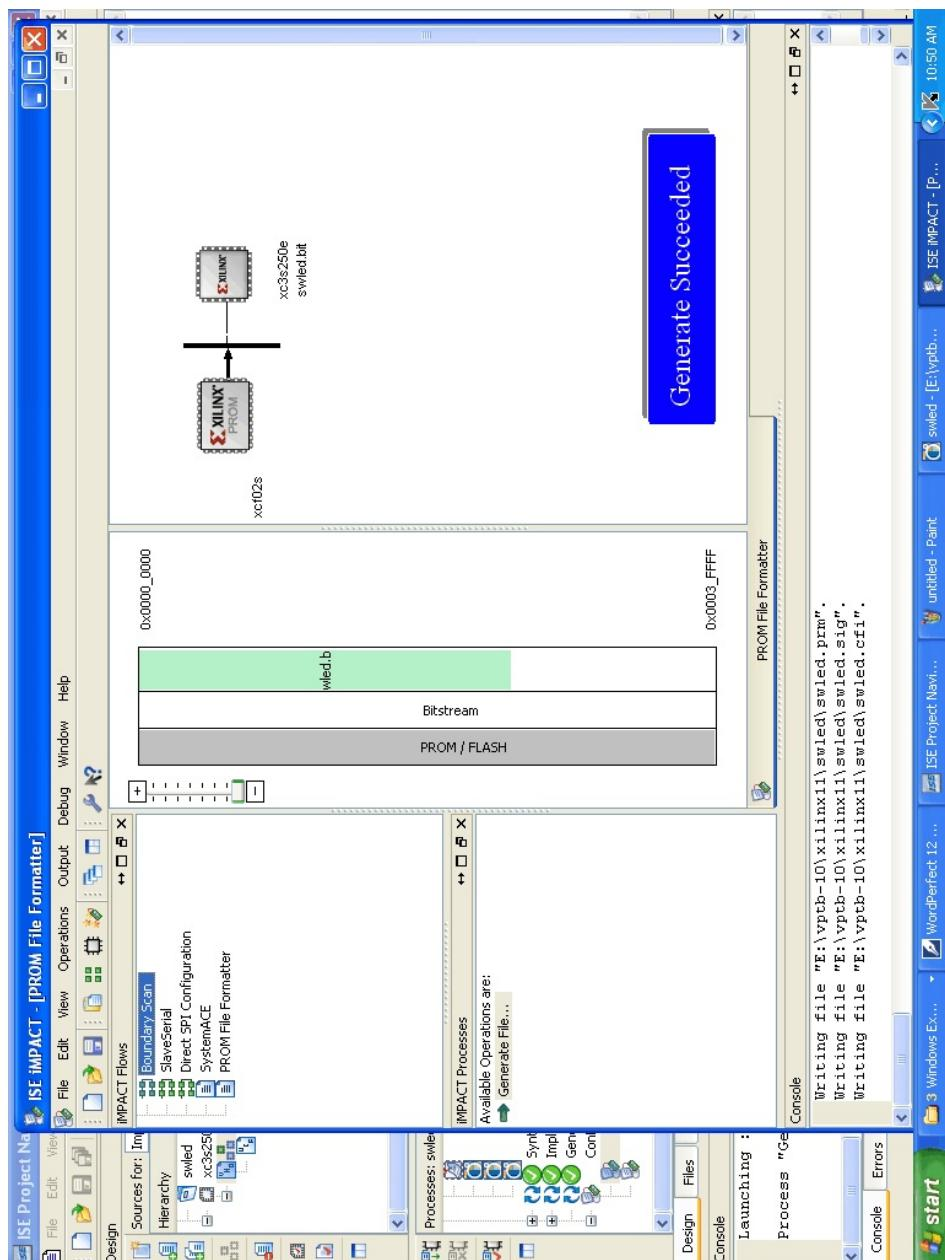
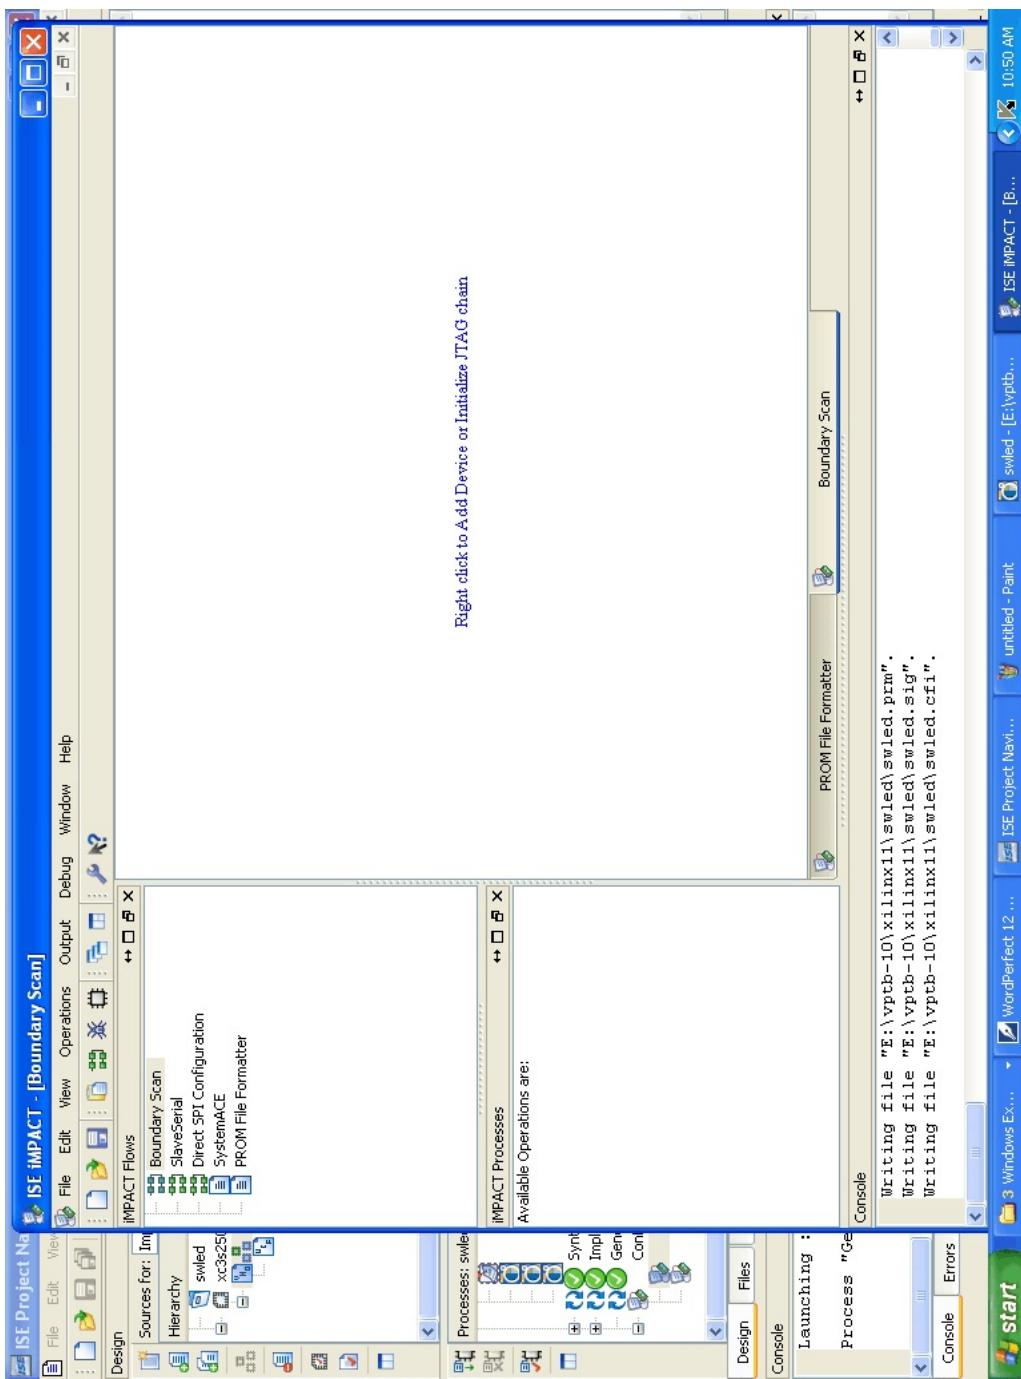
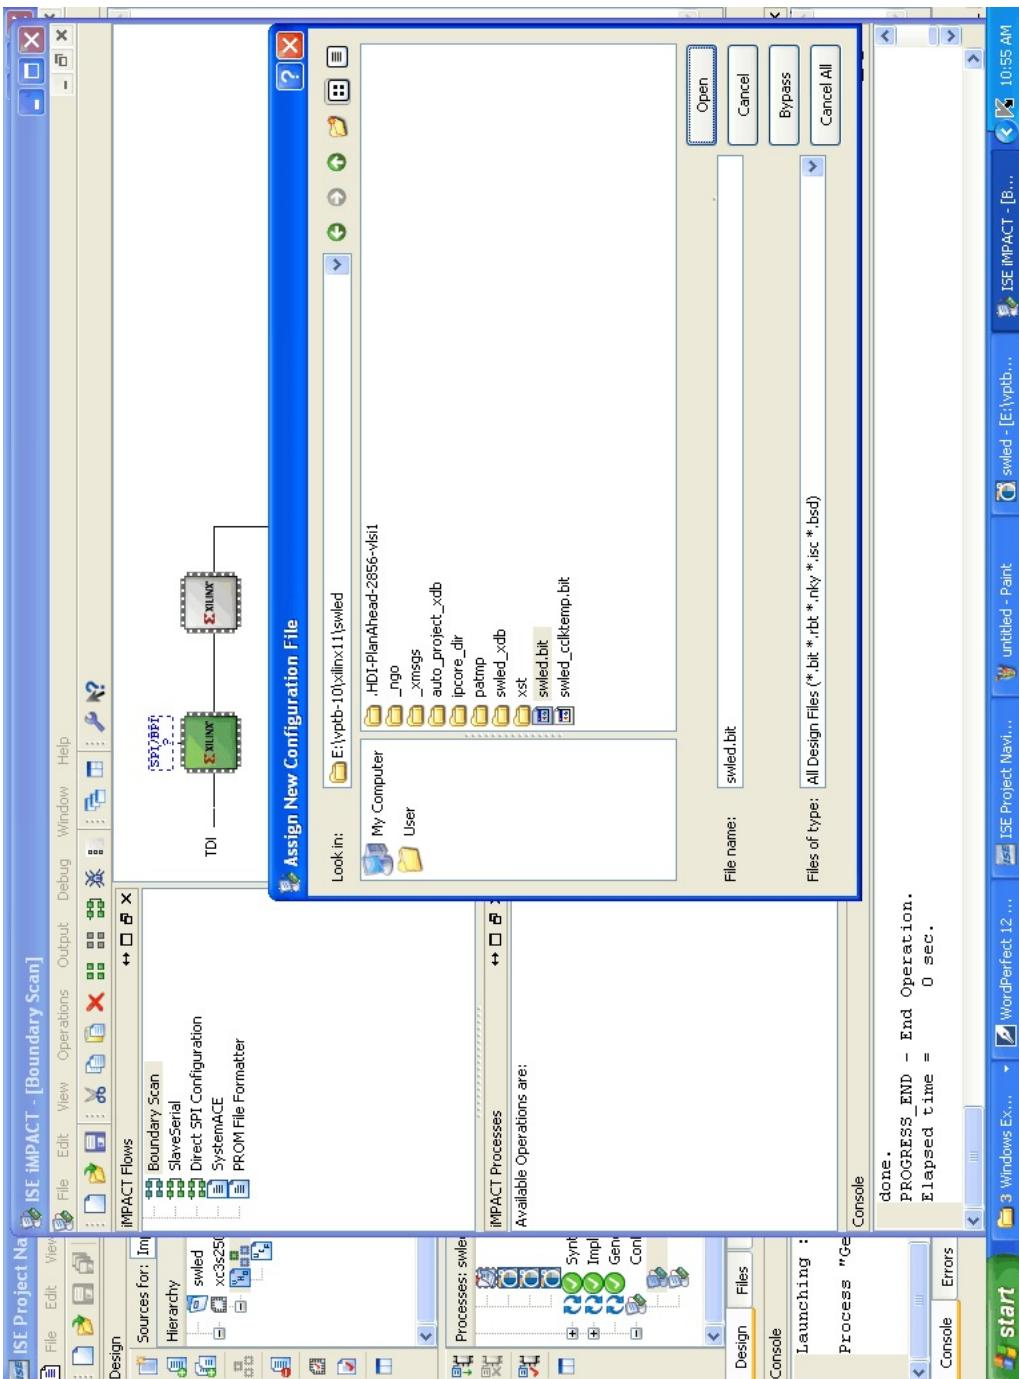
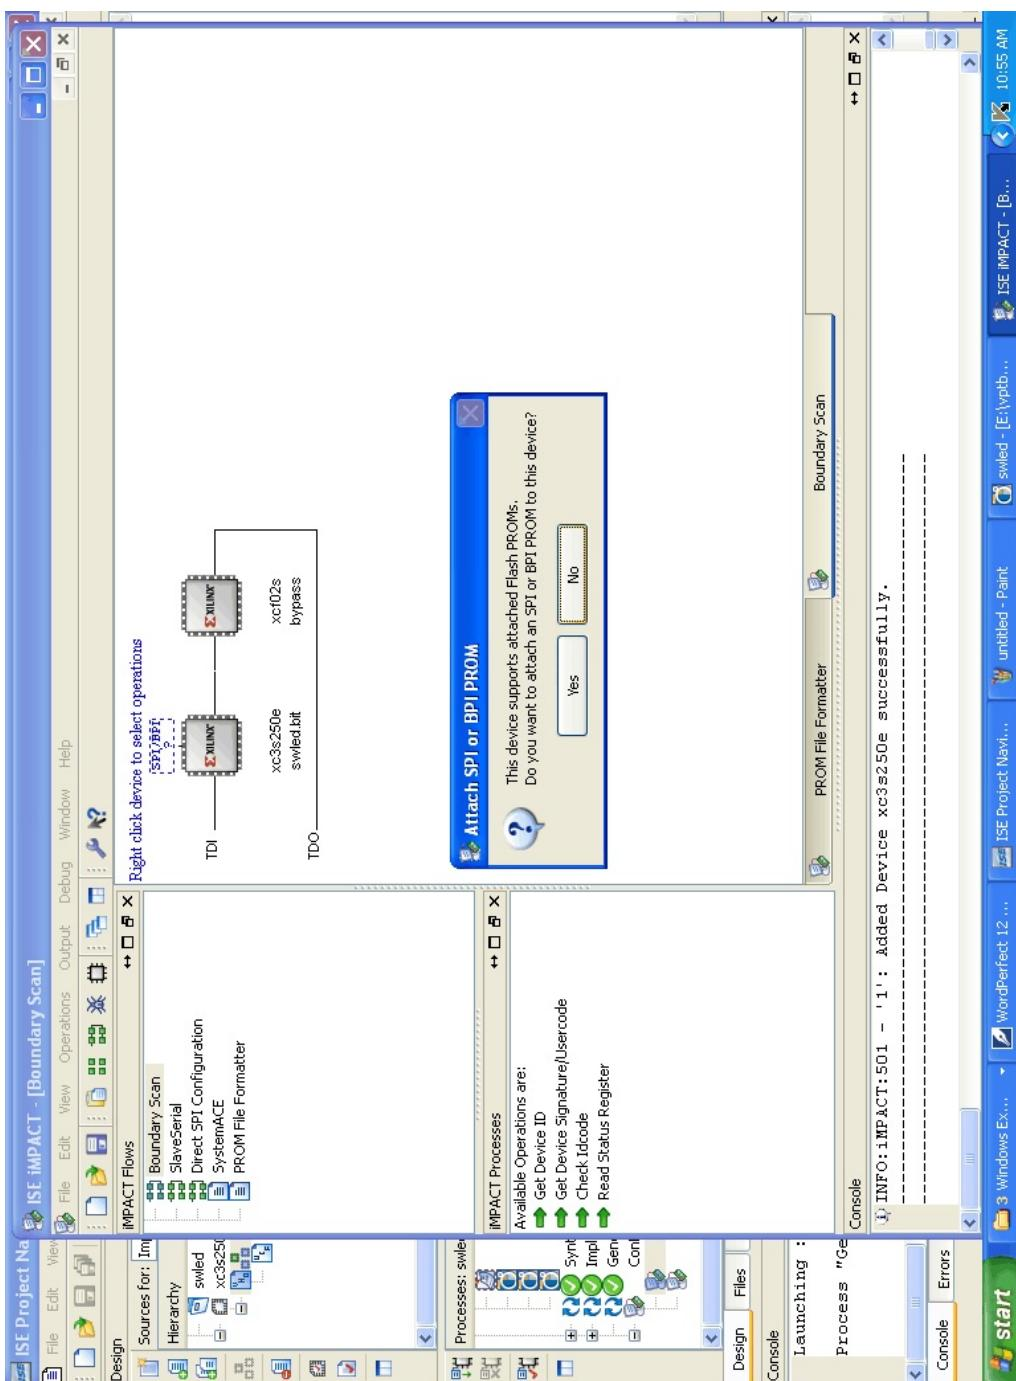

Figure-54
Figure-55
Figure-57
Figure-58
24. Now click the **Boundary Scan** option in the **ISE iMPACT(PROM File Formatter)** window as shown in **Figure-54**. Then the **Boundary Scan** tab appears next to the **PROM File Formatter** tab in that tab right click and select the **Initialize Chain** option from the pop-up menu that appears (refer **Figure-55,56**). Now the **Assign New Configuration File** window appears in that select the corresponding **.bit** file (for eg.**swled.bit**) And then click **Open** (refer **Figure-57**). In the **Attach SPI or BPI PROM** dialog box click **No** as shown in **Figure-58**.